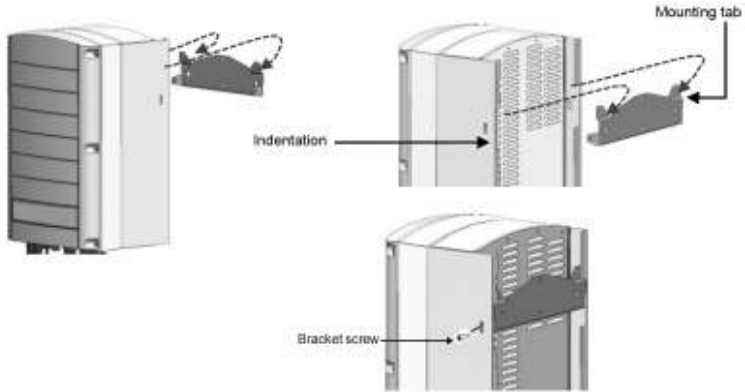

Figure 10: Hanging the inverter on the bracket
- Ensure that the flat edge of the bracket is at the bottom, as in *Figure 10*.
5. Hang the inverter on the bracket (see *Figure 10*): Lift the inverter from the sides, or hold it at the top and bottom of the inverter to lift the unit into place. Do not lift holding the Connection Unit/DC Safety Unit as it may be damaged.
9. Insert the two supplied screws through the outer heat sink fin on both sides of the inverter and into the bracket (see *Figure 10*). Tighten the screws with a torque of 4.0 N\*m / 2.9 lb.\*ft.